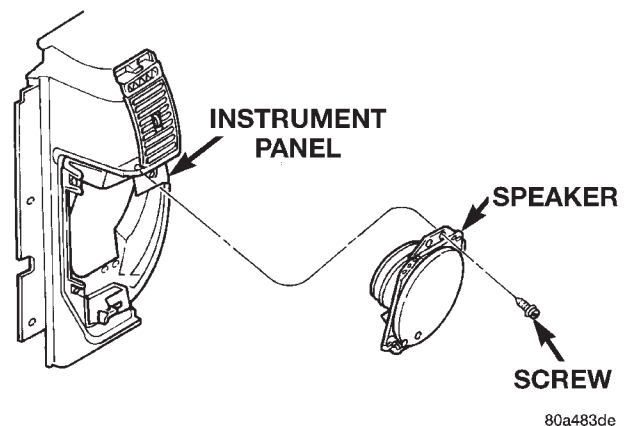

Fig. 6 Instrument Panel Speaker Remove/Install
(4) Remove the speaker bezel from the instrument panel.
(5) Remove the foam rubber speaker baffle from the speaker.
(6) Remove the four screws that secure the speaker to the instrument panel armature (Fig. 6).